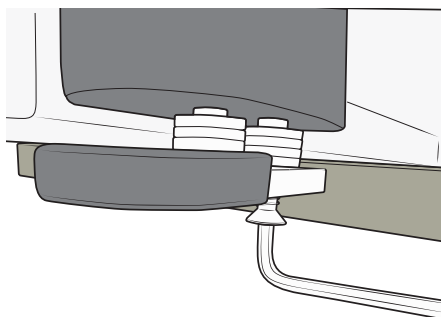

Figure 113
3. Remove the lower part of the foot by loosening the two bolts underneath the foot. Use a hex key. See Figure 113.